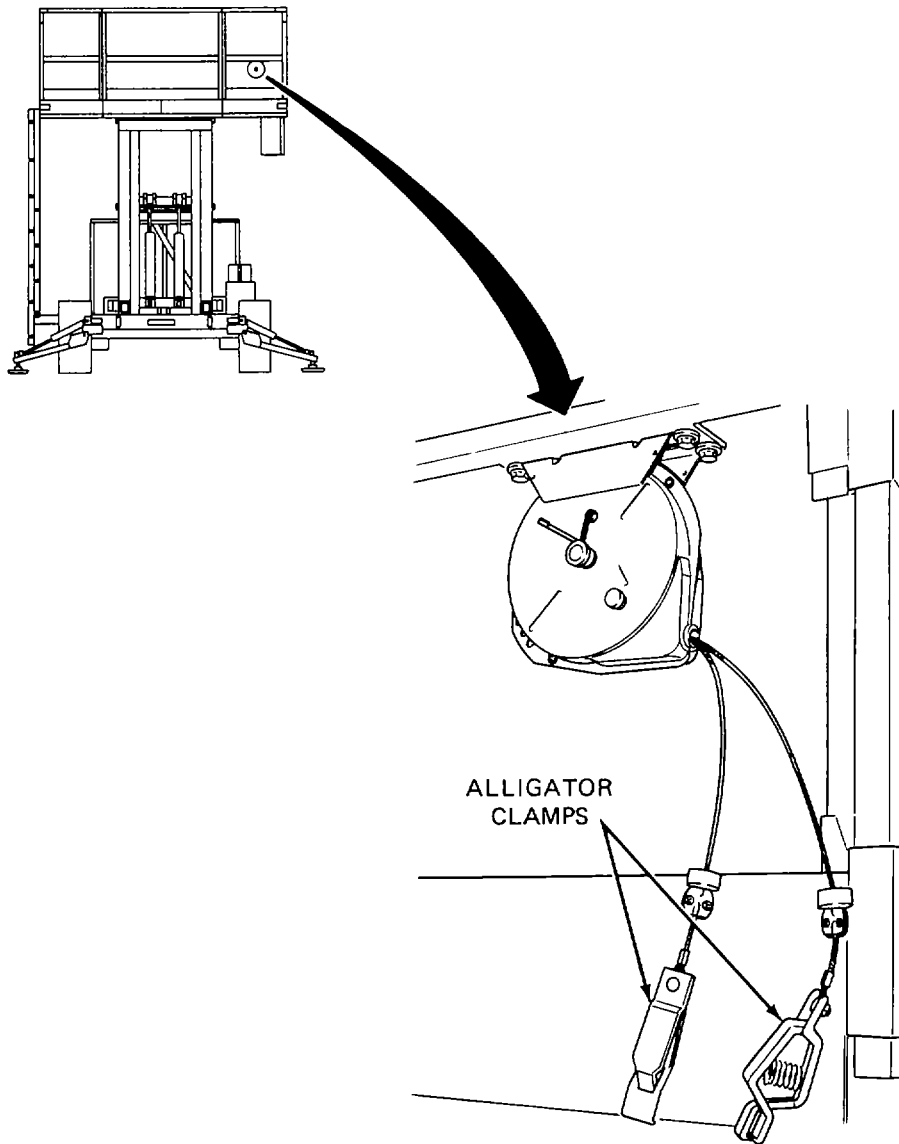

Figure 2-14. Static Discharge Grounding Reel.
c. Static Discharge Grounding Reel. Pull cables out to desired length. See Figure 2-14. Attach one alligator clamp to an approved grounding point and the other alligator clamp to a good contact point on the equipment you're working on. To rewind cables, disconnect the alligator clamps, pull the cables and allow them to rewind.